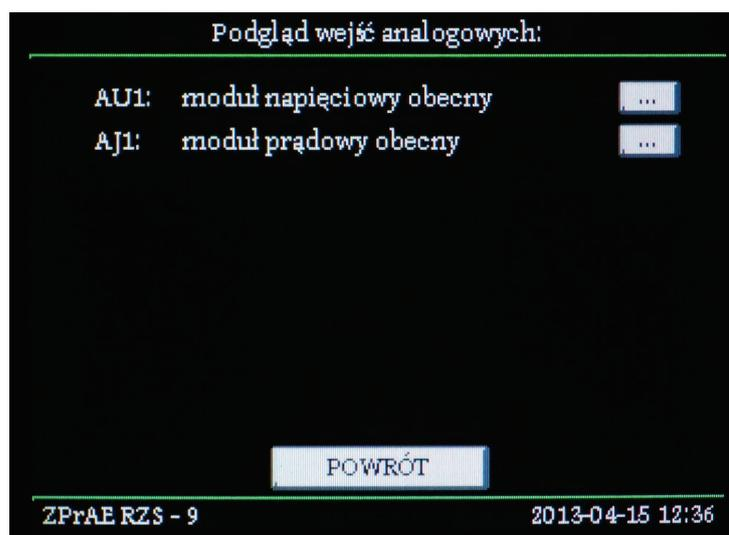

Fig. 2.8. Analogue input preview screen (available modules).
- **AN. INPUTS** – press to see the analogue input screen. A list of all analogue modules in the device is displayed (fig. 2.8.). Press the „...” button assigned to a specific module to see results of measurements for specific phases (fig. 2.9.).